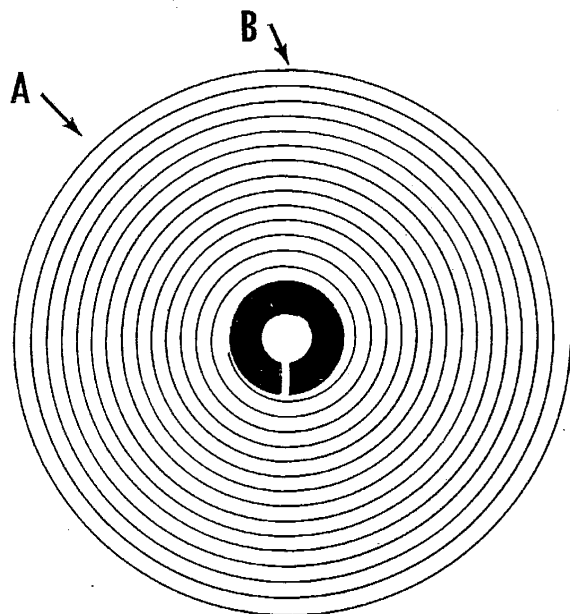
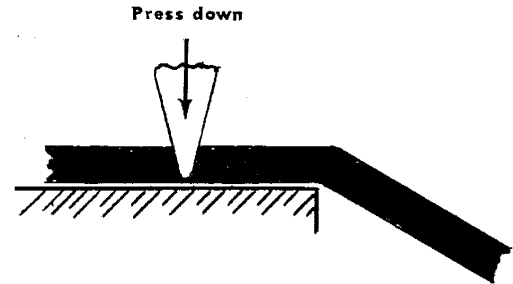

Fig. 19-22
Fig. 19-25
Place the hairspring on a piece of soft wood or linoleum. Grasp the spring at point A, figure 19-22, with the #H tweezers. Point A should be $5/8$ ths of a turn away from the end of the spring. If you are fitting this spring to a watch, point A should be $5/8$ ths of a turn from the stud.
Turn the spring over. Let the raised portion of the overcoil overhang the work surface, figure 19-25. Move your tweezers to point B, figure 19-22. On a practice spring, this point is about $1/8$ th of a turn
5. Move your tweezer about 1/8th of a turn from the first bend and again press down with tips of tweezer. Fig. 19-25